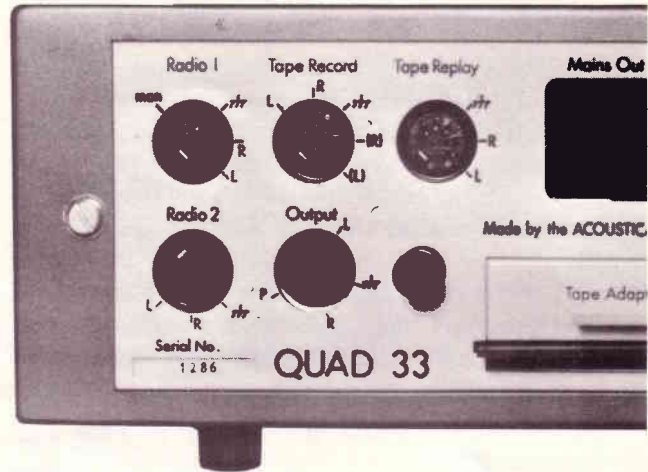

FIG. 7
Radio (See Fig. 7)
Normally either one or both tape sockets may be used for recording and replay as convenient the (L) and (R) pins (See Fig. 7) of the record socket being linked inside